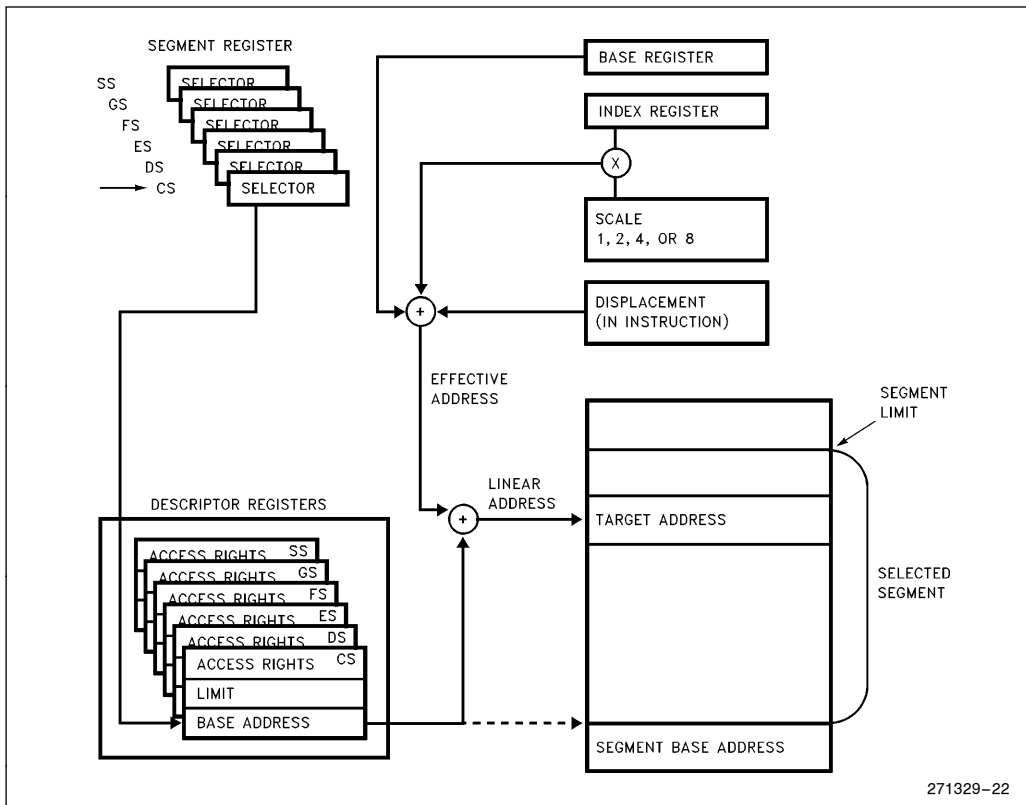

Figure 4-18. Addressing Mode Calculations
As shown in Figure 4-18, the effective address (EA) of an operand is calculated according to the following formula: